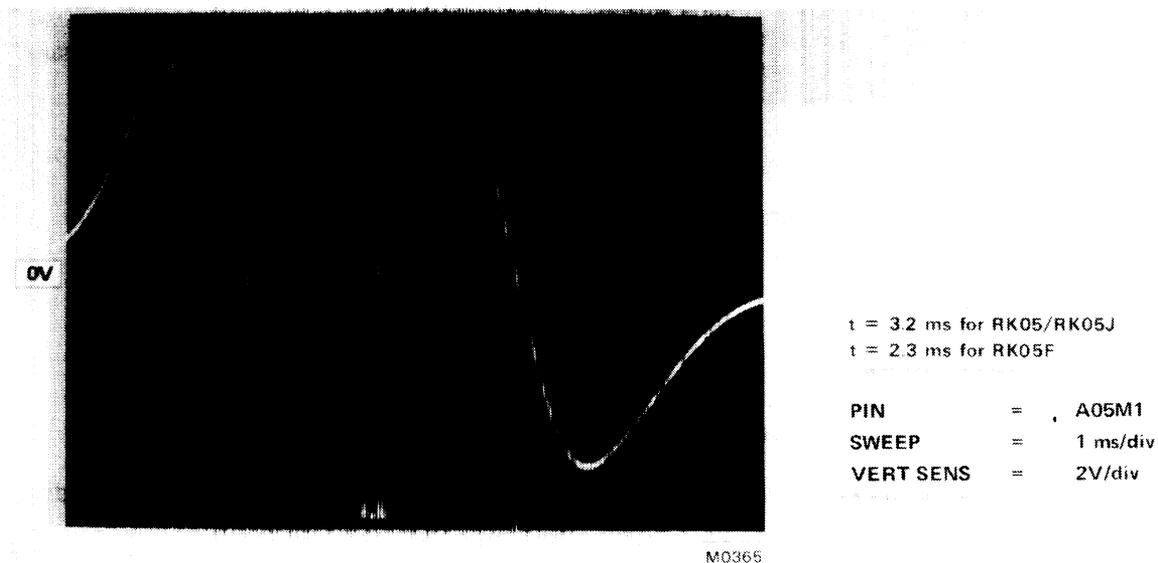

Figure 5-17 Velocity Amplitude Waveform
- c. Observe A05M1 for a scope display as illustrated in Figure 5-17. The duration of the center cycle must equal 3.2 ± 0.05 ms (2.3 ± 0.1 ms for the RK05-F).